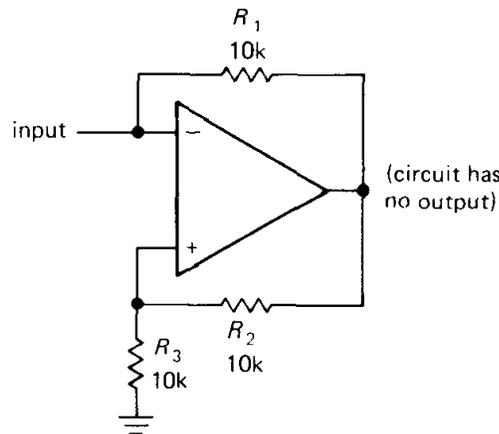

Figure 4.92
(6) The circuit in Figure 4.92 is an example of a "negative-impedance converter." (a) What is its input impedance? (b) If the op-amp's output range goes from  $V_+$  to  $V_-$ , what range of input voltages will this circuit accommodate without saturation?